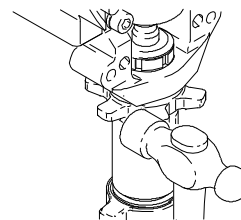

Fig. 18
6. Fig. 18. Loosen locknut by hitting firmly with a 20 oz (maximum) hammer. Unscrew pump.